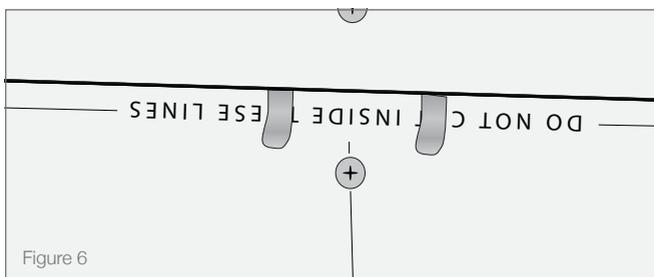

Figure 6
- Have the drywall contractor fit & install the drywall around the AS mounting platform being sure to fasten at least one 1-1/4" drywall screw to each patch clip location (see Figure 6).